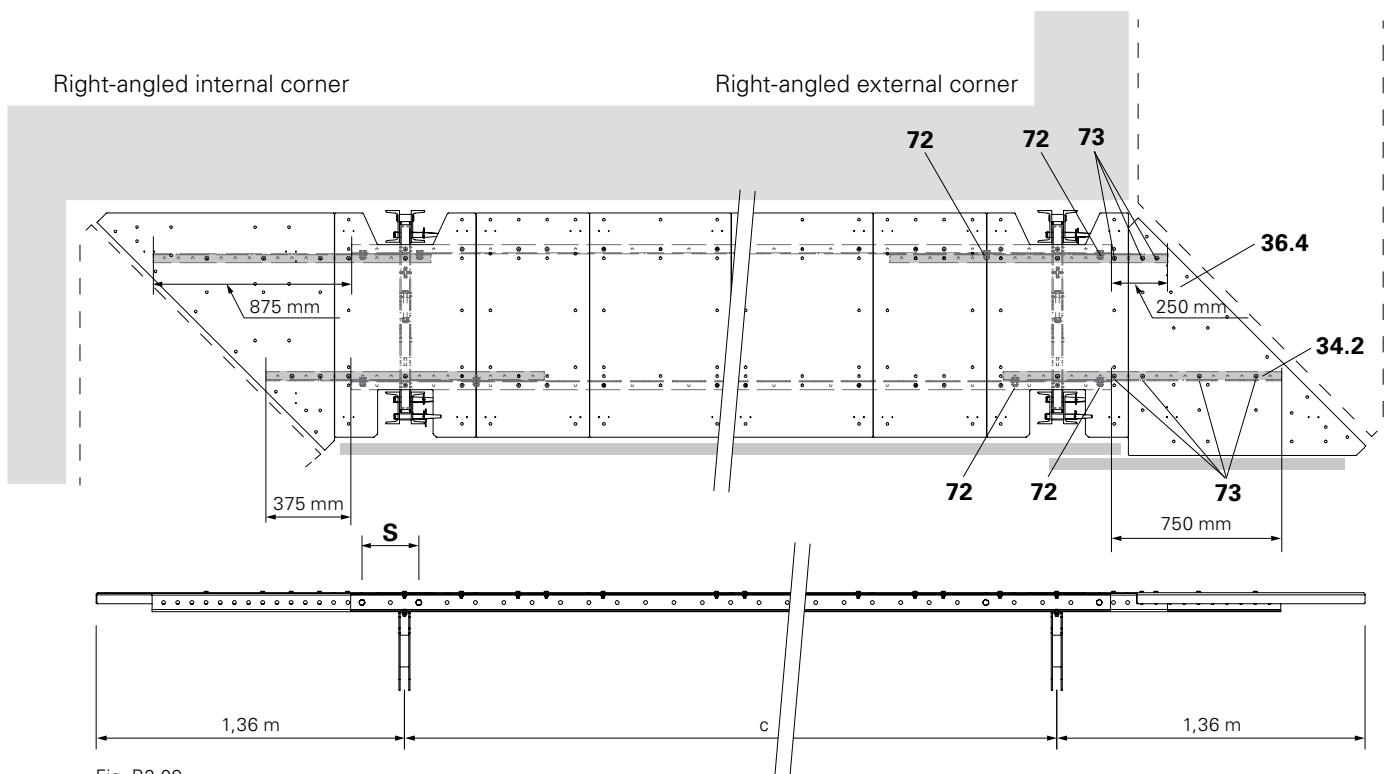

Fig. B2.09
Fix Platform Cover Corner with Oval-Head Screws ISO 7380 M10x25-10.9 (73) and Nuts M10 (5x) to Platform Beam. (Fig. B2.09)